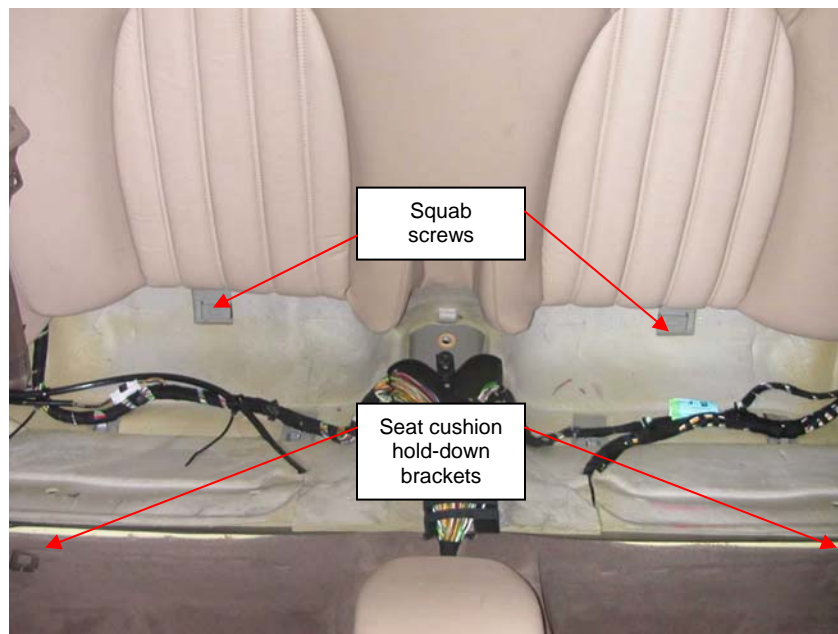

Fig. 5 Squab following removal of cushion
3. Remove the rear seat cushion (Sec. 76.70.37) and squab (seat back) (76.70.38). These steps are straight forward, as described in the manual. The seat is held in place by two 10-mm nuts with integral washers covered by plastic caps. The squab is held in place by two screws (see Fig. 5).